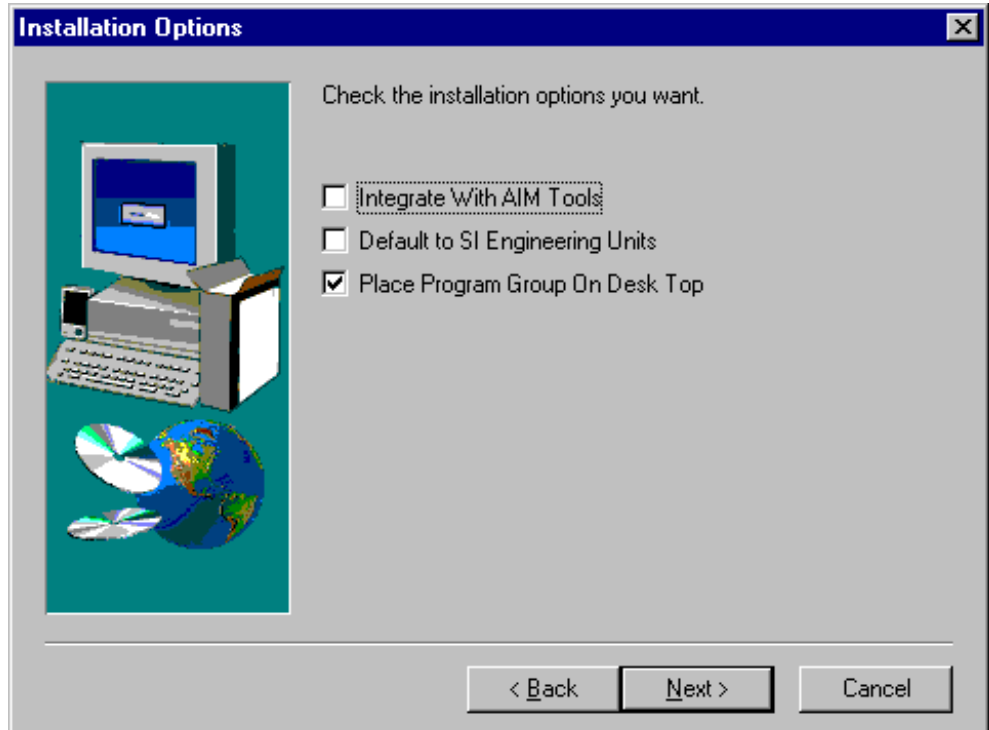

Figure 6: Installation Options Dialog Box
6. Complete the User Name and Company fields. Click Next. The Installation Options dialog box appears (Figure 6).